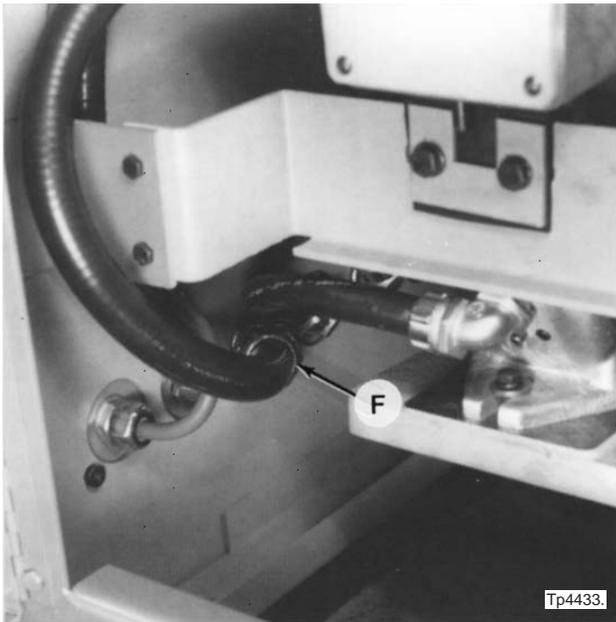

Figure 3.27 - Speed Change Conduit Nut
12. Remove conduit nut "F", Figure 3.27, and pull the wires into the pedestal.
5. Secure conduit nut “F”, Figure 3.27 .